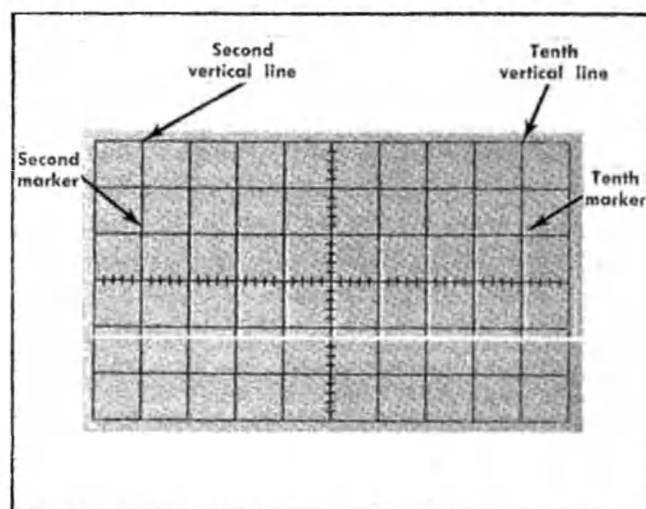

Fig. 5-5. Typical CRT display when checking normal sweep timing.
b. CHECK—Using the TIME/DIV switch and time-mark generator settings given in Table 5-2, check normal sweep timing within the given tolerances over the middle eight divisions of the display. Set the TRIGGER control as necessary for a stable display in the variable positive-slope area. Fig. 5-5 shows a typical CRT display when checking sweep timing.